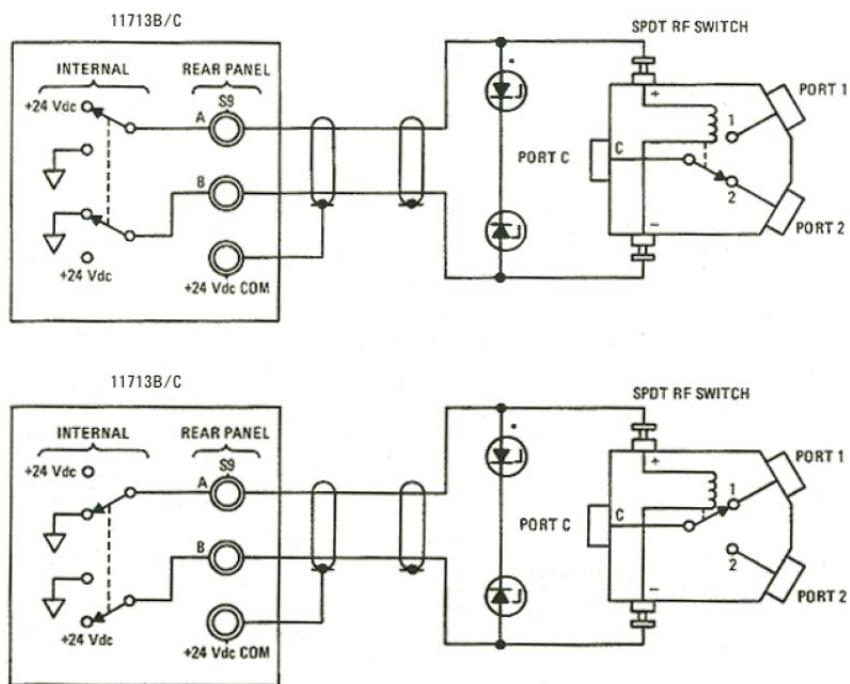

Figure 2-6 Typical connection for 8761 series coaxial switches
- **Figure 2-6** illustrates the rear panel connections to S9 outputs and the corresponding switch positions reflected by pushbutton indicators.